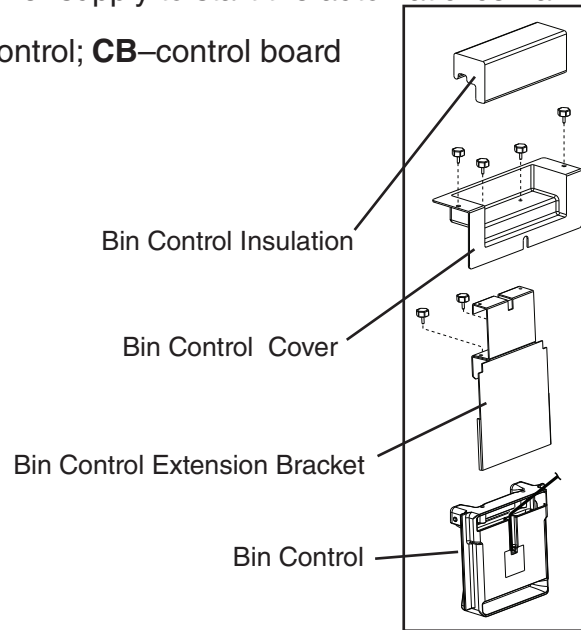

Fig. 1
- 5) If BC is accessible from the dispenser unit/storage bin, continue to step 6. If BC is not accessible from the dispenser unit/storage bin, remove BC insulation. Remove BC cover thumbscrews, then lift BC assembly out of the icemaker. See Fig. 1.